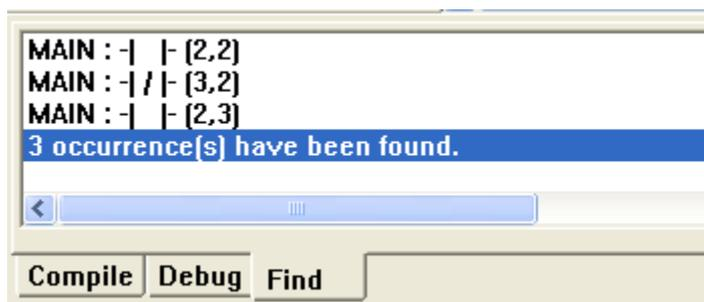

Fig.2.23 Global find
**【 Global Find 】** : Find the suitable function block, instruction or statement globally. This function is executed in all programs (LD, FBD, IL and ST etc.). After the completion of **Global Find**, the result displays in the **Find** tab of Output Window, including the place and the number. As shown in Fig.2.23.